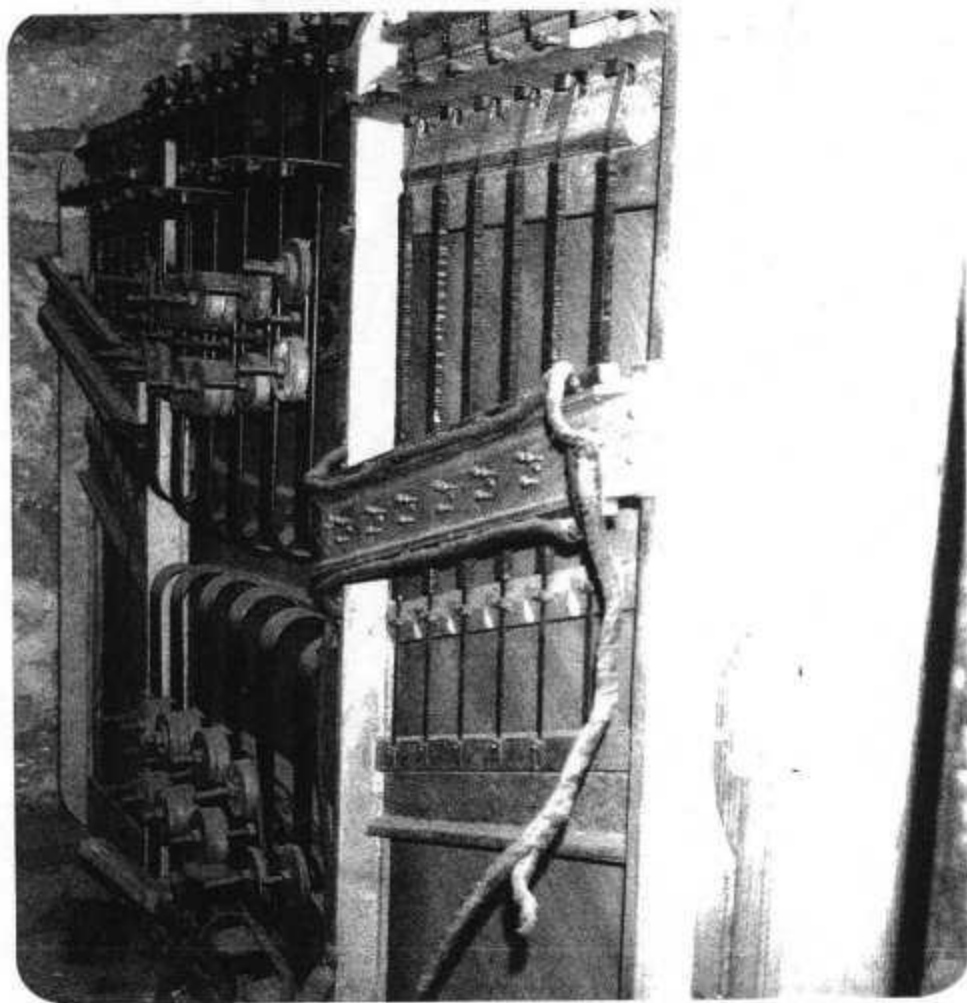
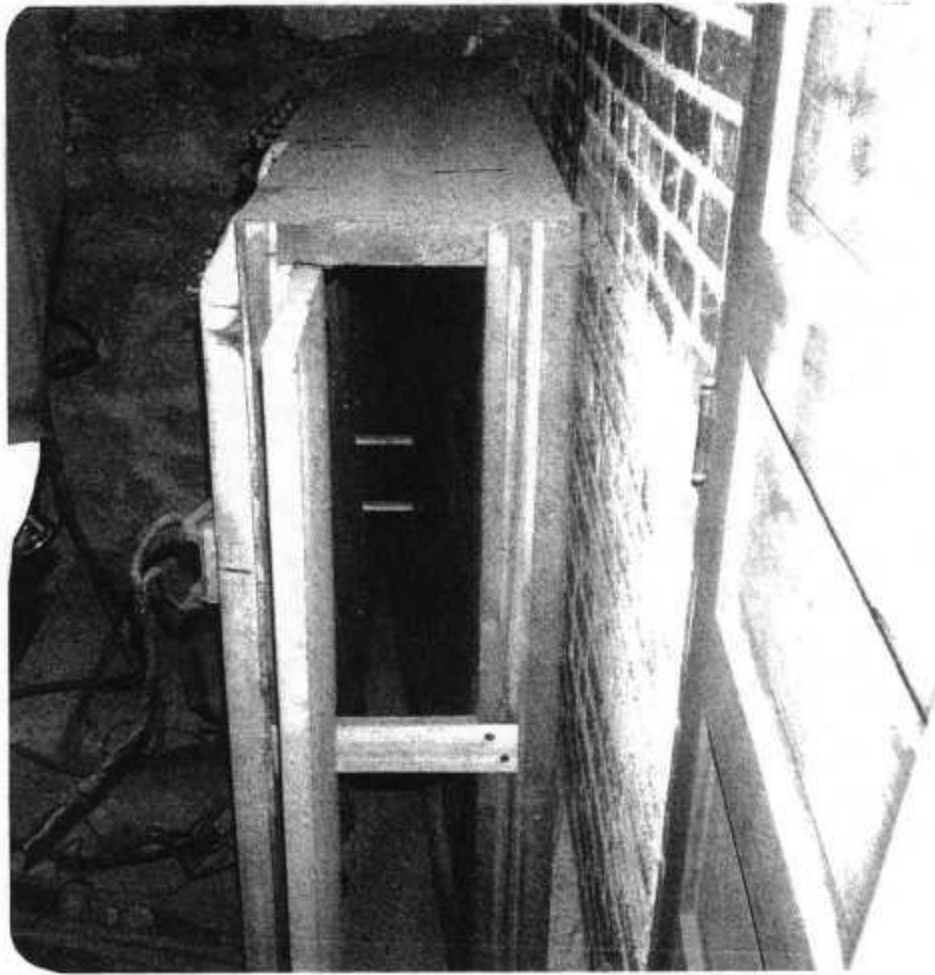

Fig. 6. Double bass unit.
Fig. 7. End of double bass unit, showing soundposts connecting the two soundboards.
*"Two small rooms of the basement are given over to auxiliary units, relays, generators, and other equipment. Lighting conditions were poor and my knowledge of electrical devices minimal. I shall not attempt to describe the units but will show four of them. Figure 3 shows a unit of metal bars (probably aluminium); these are ranked by pitch and have resonating tubes (some of which have been removed). Figure 4 shows a wood unit; figure 5, another metal unit, possibly steel. Figure 6 shows the double bass unit with two piano sound boards connected by soundposts, figure 7. Figure 8 shows a wood unit. There was also a rack where an additional unit had been, but the components were gone. It may have been the elusive glass unit, since it is probable that the sounding elements were hung from it in a manner unlike the positioning of the elements of the other units. This choralcelo was the project of a wealthy man who had a particular love for the instrument, and in building a beautiful home in the Denver area had the ballroom and adjoining area - an entire wing, to be exact - designed specifically to house and display the instrument to best advantage. The console is set into the one interior wall of the ballroom, and is of wood matching the paneling of the room. Figure 1 shows it without the matching bench. Figure 2 is much clearer and reveals the two manuals very clearly; the upper manual is of 61 organ keys, the lower is a piano keyboard, and the pedalboard is standard. The specifications are given on page*